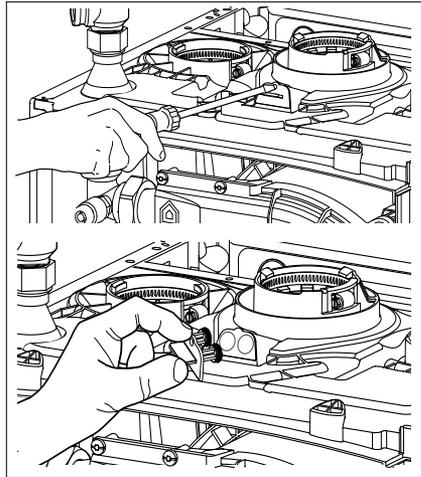

Figure 11 - Combustion Test Port
- Reinstall the combustion test port. See Figure 11.